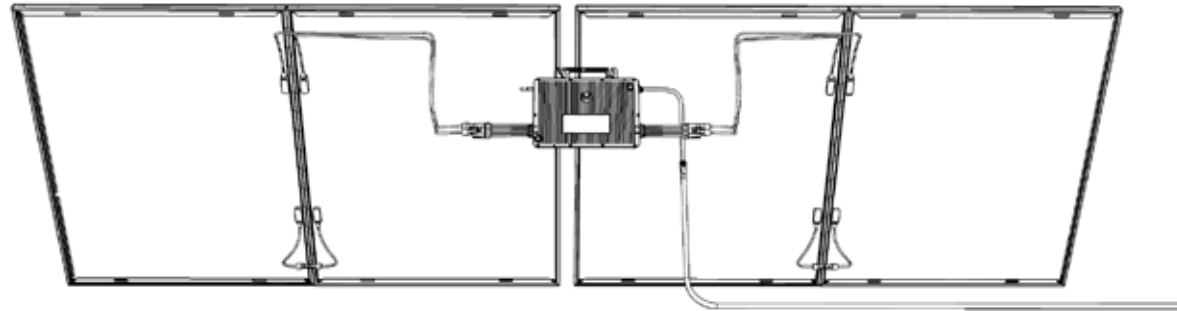

FIGURE 6-1
- ① First, connect the positive and negative terminals of two Suncake products in series using DC wires, and then parallelly connect the two sets of series-connected products to the micro-inverter DC port, as shown in Figure 6-1.